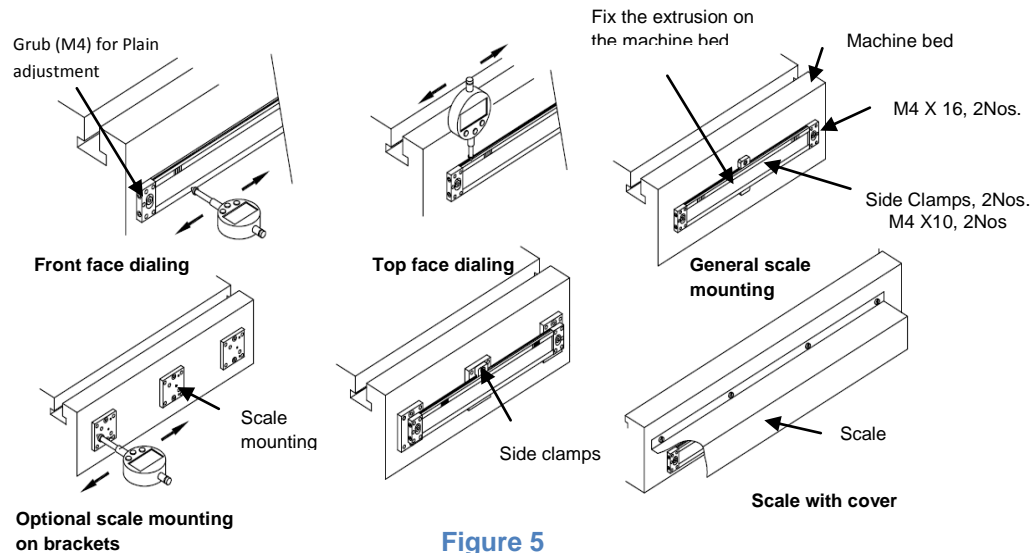

Figure 5
- If the mounting surface of the machine is even (within 0.1mm/m), then the scale can be directly mounted to the machine. Ensure the parallelism to full length of the scale as instructed in the mounting tolerances using a dial indicator. Adjustment is provided in the scale end brackets to help aligning the scale and maintaining the mounting tolerances. Refer Figure 5.
- Mounting brackets should be positioned at the two ends of the scale as shown in the Figure 5. The alignment of the blocks should be checked using dial indicator before mounting the scale. Use side clamps as indicated in Figure 5 at every 500mm.
- Ensure the supplied cover is properly mounted to protect the scale and reader head for the entire length to ensure the reliability and performance of the system. Refer Figure 5.